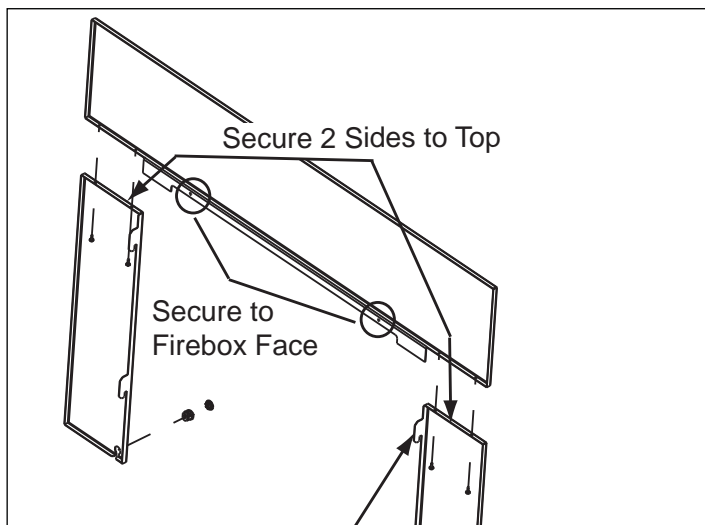

Figure 21.1
6. Align the 2 screws in the top surround piece to the 2 alignment holes on the appliance top. Secure in place. **Figure 21.1.**
**Included in Surround Kit:** (2) side pieces, left and right; (1) top piece; (1) fastener package; (1) heat deflector.
**Included in Cast Trim Kit:** (2) cast trim legs, left and right; (1) cast trim header; (2) cast trim footers, left and right; (1) fastener package.
3. Using a 4 to 6 inches long Phillips head screw driver attach the side surrounds to the top surround using (2) #8 sheet metal screws on each side provided with the kit
4. Place the peel and stick round felt vibration insulation pads on the front side in each corner of the top metal piece and on the back side in each corner of the top cast piece. **Figure 21.1.**